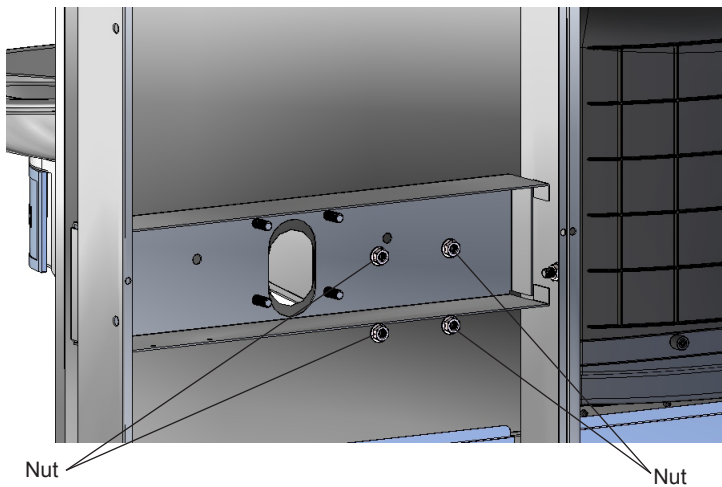

Figure 7 – Fountain Installation
7. Install reset switch for bottle filler (Fig. 7). Snap the switch into position after locating wires through slot. Wrap up the excess cord.
10. **Install** fountains with (4) 5/16-18 HHMS, (4) 5/16-18 nuts & (from original installation) (Fig. 7). Connect the 1/4" water lines from the fountain to the remaining opening on the tee at the remote chiller (cut lines to fit as needed), (Test fit refrigerated panel to make sure there is a tight joint between it & the main panel before fully tightening mounting screws.)
- 1) To access the program button, remove the bottom lower louvered panel (Fig. 7) by removing the lower panel screws. Reset button is located on the mounting bracket.